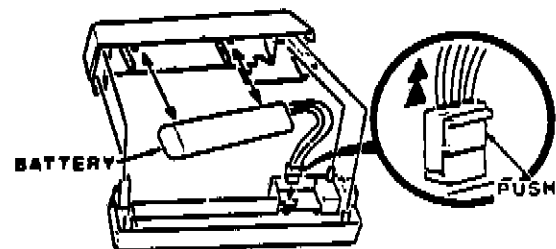

Figure 3-3. Disconnecting the Battery
3. Disconnect the battery connector from the battery pack 3-pin connector with the connector lock pressed, as shown in the inset of Figure 3-3. Lift the battery from the battery pack and set the battery aside.